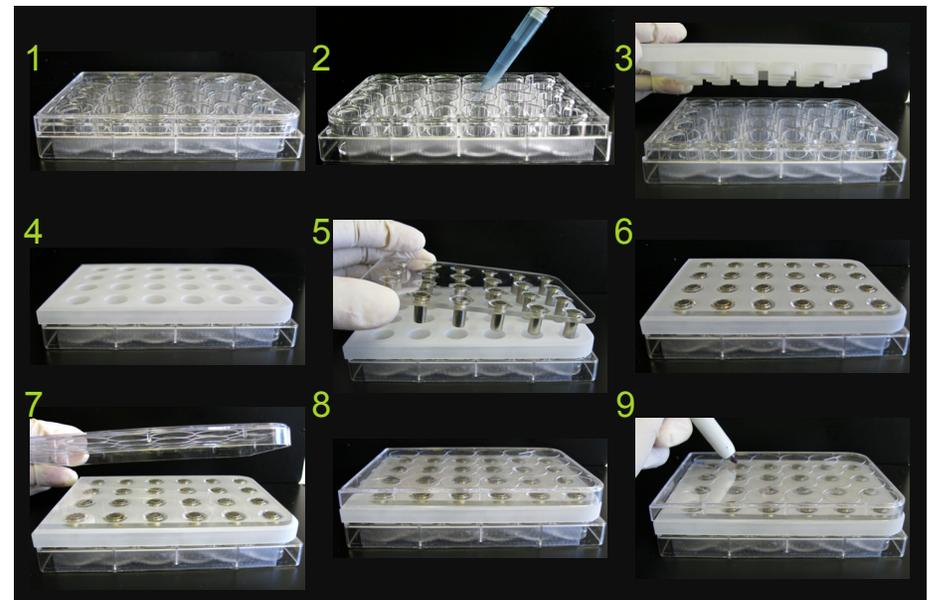

Figure 4. Steps for assembly of 24-well plate and magnetic drive.
13. Load and levitate cells as follows (Fig. 4):
d) Place lid on 24-well plates carrying cells (Fig. 4. 3 and 4)
e) Place magnet driver on special white lid (Fig. 4. 5 and 6)
f) Place original 24-well lid on top of magnet driver (Fig. 4. 7 and 8)
g) Label wells as needed (Fig. 4. 9)